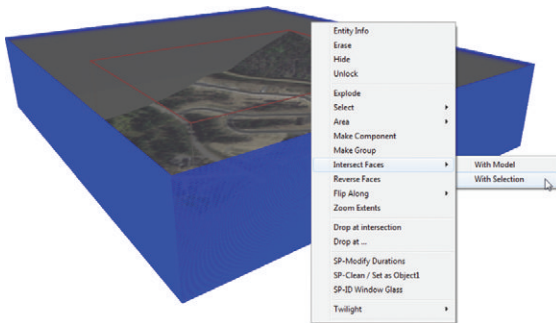

Figure 15.17 Selected rectangles
- Select all of the rectangle slices and terrain. Right-click on the selection and choose Intersect Faces > With Selection (Figure 15.17). This draws all of the slices the rectangles make when they penetrate the 3D terrain, thereby creating topography lines.